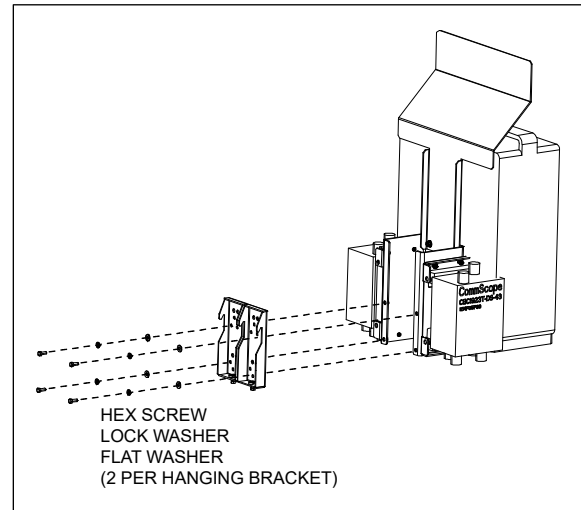

Figure 16
5. Attach the remaining two hanging brackets to the back of the radio/diplexer assembly. Secure using four 1/4-20 hex screws (5/8" long) with lock washers and flat washers (Figure 16).